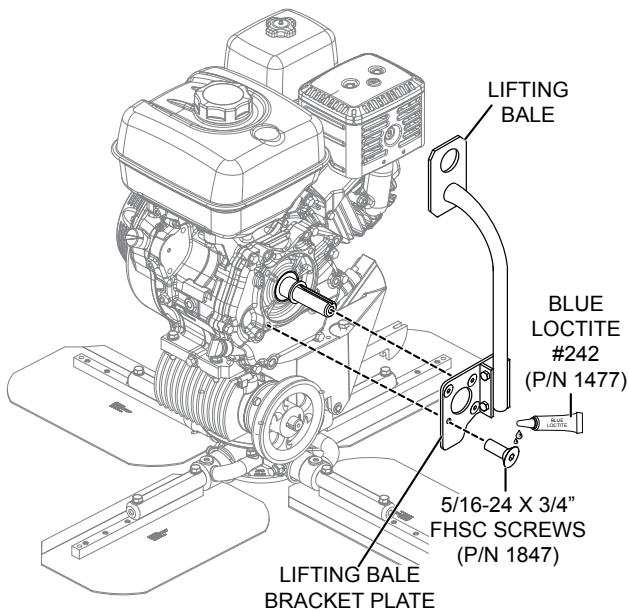

Figure 6. Lifting Bale Installation
1. Apply Blue Loctite™ #242 (P/N 1477) to the four lifting bale mounting 5/16-24 X 3/4" FHSC screws (P/N 1847) as shown in Figure 6.
2. Place the lifting bale onto the engine shaft (Figure 6) and slide backwards until flush with the engine.
3. Using a 8mm allen head key (Figure 6), tighten screws (4) to secure lifting bale to the engine.